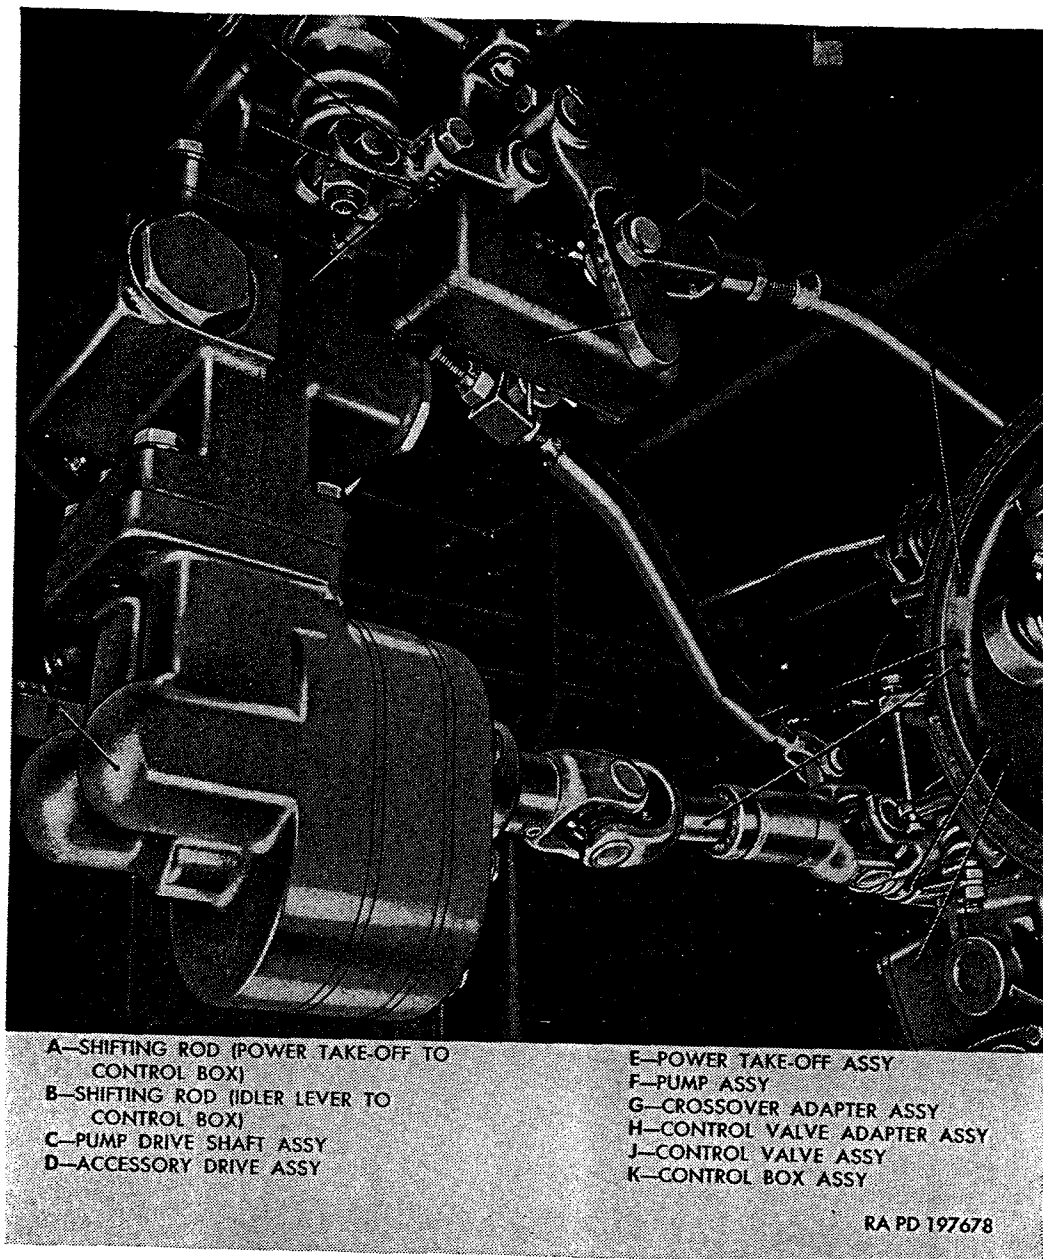

Figure 347. Dump body hoist units and controls.
- (7) *Control box* (fig. 347). A control box assembly is installed at front underneath subframe. Manual linkage is connected to lever at one side of control box. Lever at opposite side of control box is connected to power-take-off to provide engagement and disengagement of this unit. Control box also is connected to control valve to permit raising, holding, and lowering of body.
- (8) *Hoist pump* (fig. 347). Hoist pump is gear-type and is mounted to the crossover adapter assembly. Pump is driven from power-take-off accessory drive assembly by means of a drive shaft assembly.
- (11) *Crossover adapter* (fig. 347). Crossover adapter assembly is mounted between fluid pump assembly and control valve adapter assembly. Crossover adapter contains four spring-loaded balls, which open or close passages within the adapter body as pump rotation direction is changed.